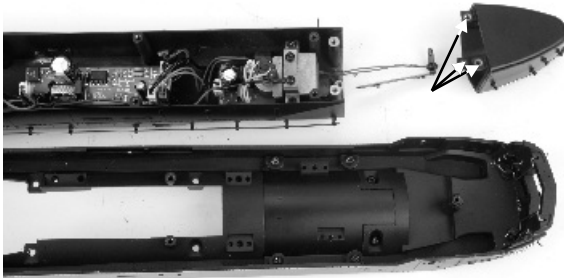

Figure 7b
5. Remove the 3 screws that attach the nose cone to the boiler section. (See Fig. 7b)